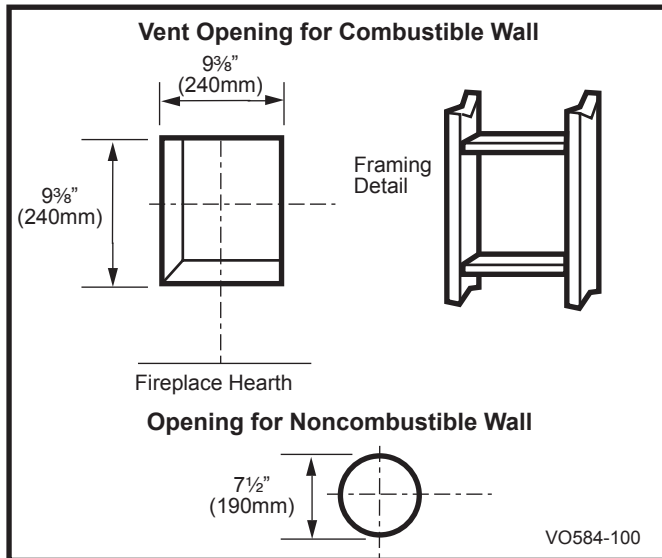

Fig. 22 Locate vent opening on wall.
Locate vent opening on the wall. It may be necessary to first position the fireplace and measure to obtain hole location. Depending on whether the wall is combustible or noncombustible, cut opening to size. (Fig. 22) For combustible walls first frame in opening.
**Combustible Walls:** (Fig. 22) Cut a 9 $\frac{3}{8}$ "H x 9 $\frac{3}{8}$ "W (240 x 240 mm) hole through the exterior wall and frame as shown.
**Noncombustible Walls:** (Fig. 22) Hole opening must be 7 $\frac{1}{2}$ " (190 mm) in diameter.
1. Establish vent hole through the wall. (Page 16, Fig. 22)